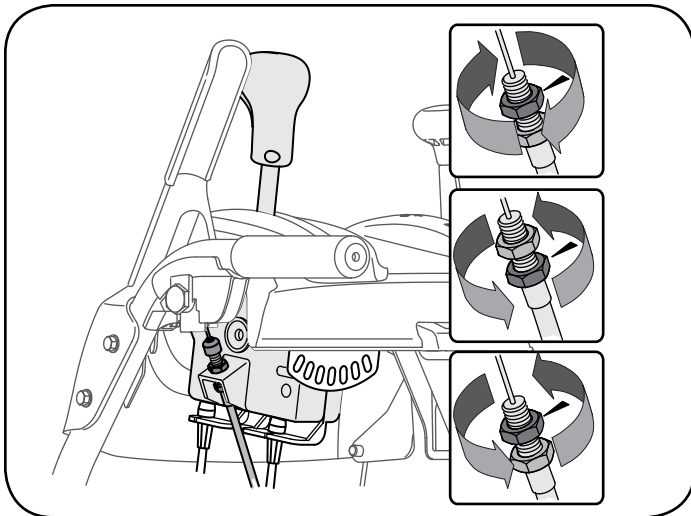

Figure 21
2. Adjust equally on both sides by working on both cables. See Figure 21.